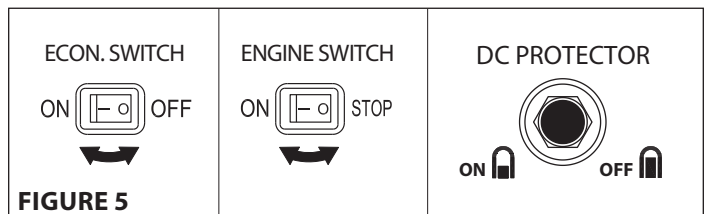

FIGURE 5
3. Turn the engine switch to the **ON** position. **SEE FIGURE 5**
2. Flip the engine switch to the **STOP** position. **SEE FIGURE 5**